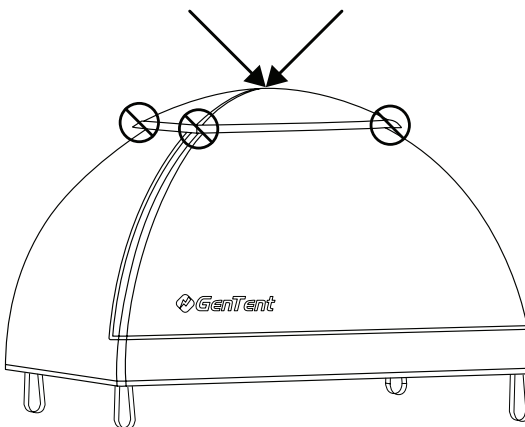

Fig. 4.5
- d. Take hold of the GenTent by grasping the center of the Canopy top cap (Fig. 4.5) and lift straight up, **DO NOT LIFT BY THE TOP CAP CORNERS**. The tension on the strap from the fully assembled GenTent will ensure it keeps its shape.